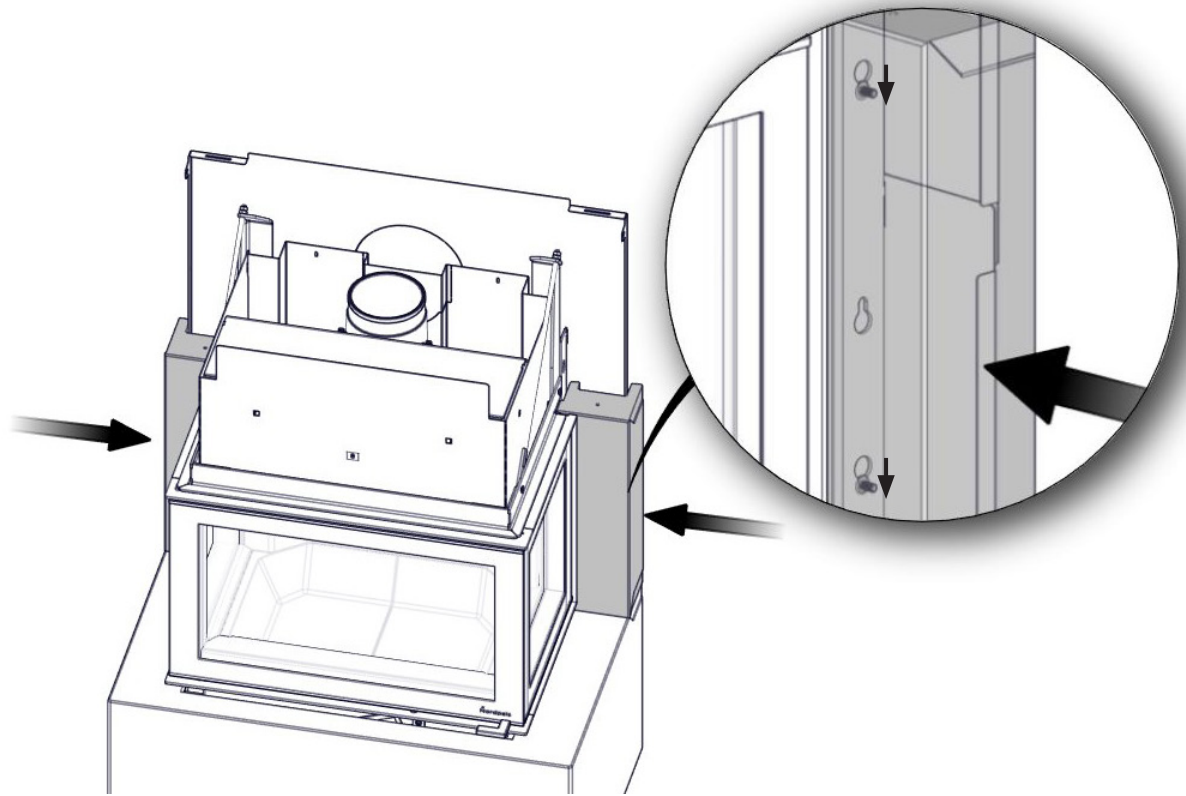

FIG 15 Davos U High\_N-29U
FIG 15 a Davos U High\_N-29U
FIG 15 b Davos U High\_N-29U
**FIG 15 c** Davos U High\_N-29U
**FIG 15 d** Davos U High\_N-29U